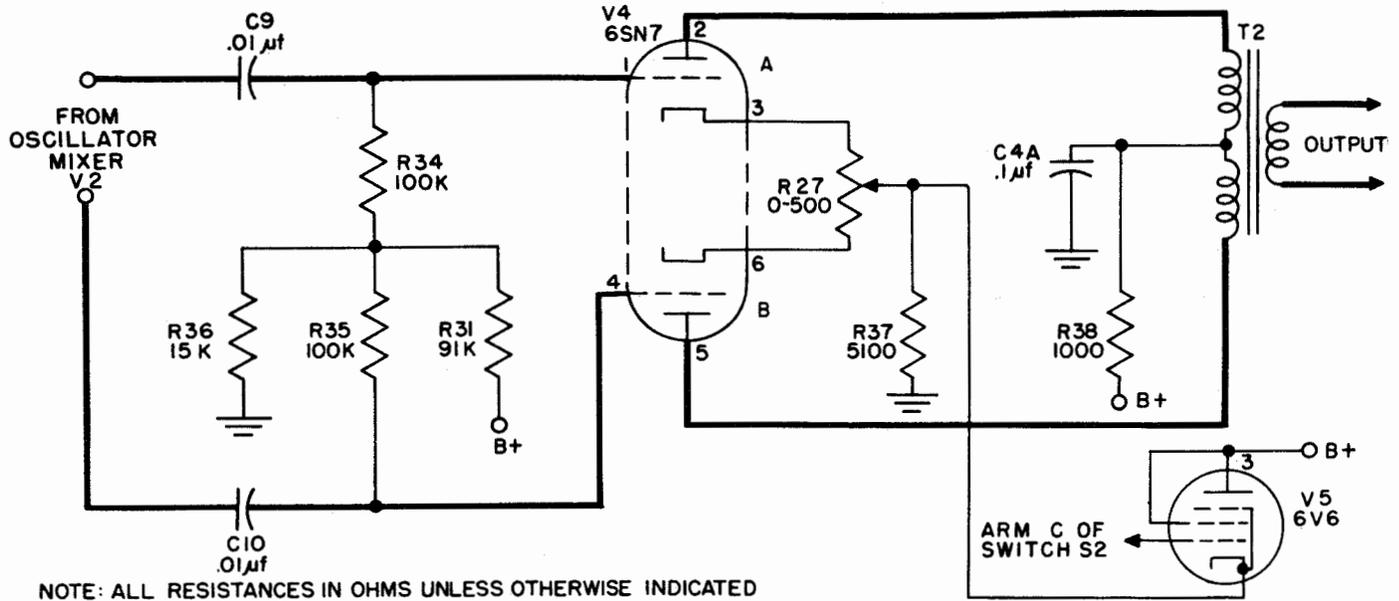

Figure 2-29. Keyer KY-79/UR, Simplified Schematic, Keying Amplifier and Keyed Audio Output Amplifier
(4) KEYED AUDIO OUTPUT AMPLIFIER V4. (See figure 2-29.)—The output amplifier is a push-pull class A amplifier. Audio signals from tube V2 are fed through potentiometer R24 and coupling capacitor C9 to the grid of tube V4A, and through the connection of resistors R21 and R55 to the grid of tube V4B. Grid and cathode biasing are used in both sections of the tube. Voltage divider resistors R31 and R36 apply grid bias to tube V4A through resistor R34, and to tube V4B through resistor R35. Cathode bias for both sec-